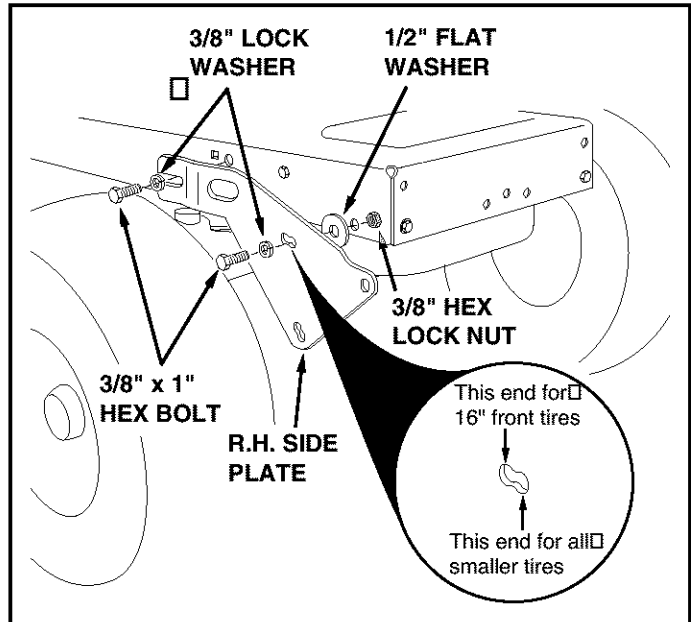

FIGURE 5 RIGHT SIDE VIEW
- Attach the R.H. Side Plate (marked "R") to the right side of the tractor frame as shown in figure 5. For the front hole use a 3/8" x 1" hex bolt, a 3/8" lock washer, and a 1/2" flat washer. Use the flat washer as a shim between the frame and the side plate. For the rear hole use a 3/8" x 1" hex bolt, and a 3/8" lock washer. Repeat for the L.H. side.